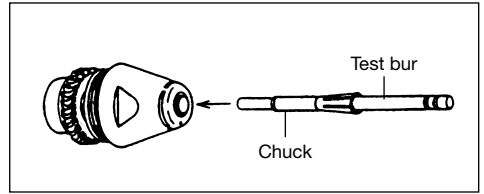

Fig.13
(2) Installation of the New Chuck
- ① Apply oil thinly on the surface of the new chuck or the chuck after cleaning, insert the test bur and push into the rotor shaft. (Fig.13)